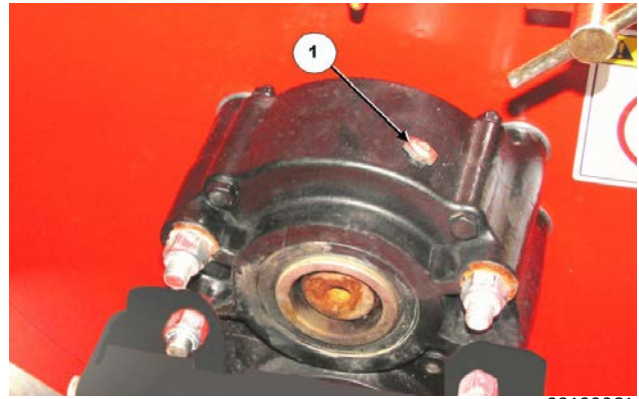

Figure 2: Remove gearbox fill plug
3. Remove the top oil fill plug (1) on the main drive gearbox, see Figure 2.